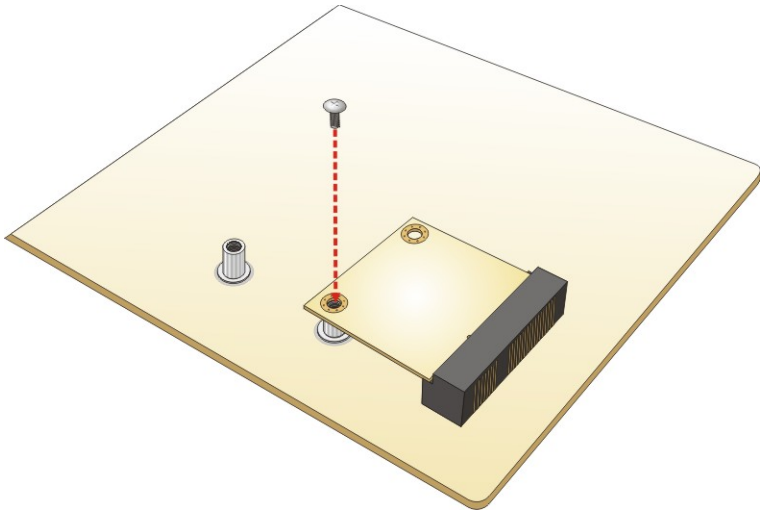

Figure 3-12: Securing the Half-size PCIe Mini Card
Step 3: Secure the half-size PCIe Mini card with the retention screw previously removed (Figure 3-12).